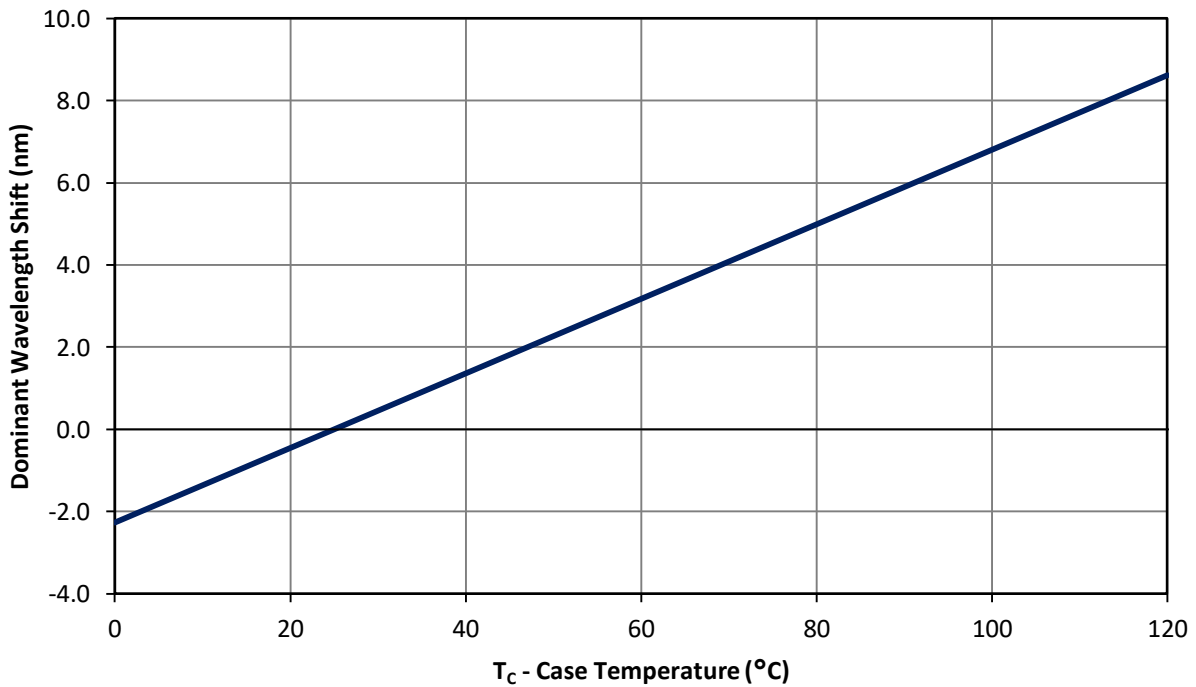

Figure 10: Typical relative dominant wavelength shift vs. case temperature.
- Amber LEDs have a significant shift in wavelength over temperature; please refer to Figure 10 for details. Caution must be exercised if designing to meet a regulated color space due to this behavior as product may shift out of legal color space under elevated temperatures.